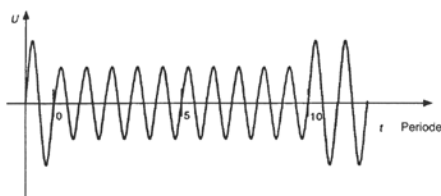

Fig.1: Voltage dips
Voltage dips: The switching between the rated voltage U_1 and the variable voltage U_2 (U_2 always $\leq U_1$) is always erratic. It can be set at each phase angle of the mains begin or end. The standard test is defined at 40%, 70% and 80%. This test requires the injection of the same phase voltage U_2 at the rear of the device. A step transformer (VIS 740) fulfilled the standard requirement. **Fig. 1**
- Voltage dips (fig. 1) Voltage fluctuation (fig. 2) AC max. 16 A